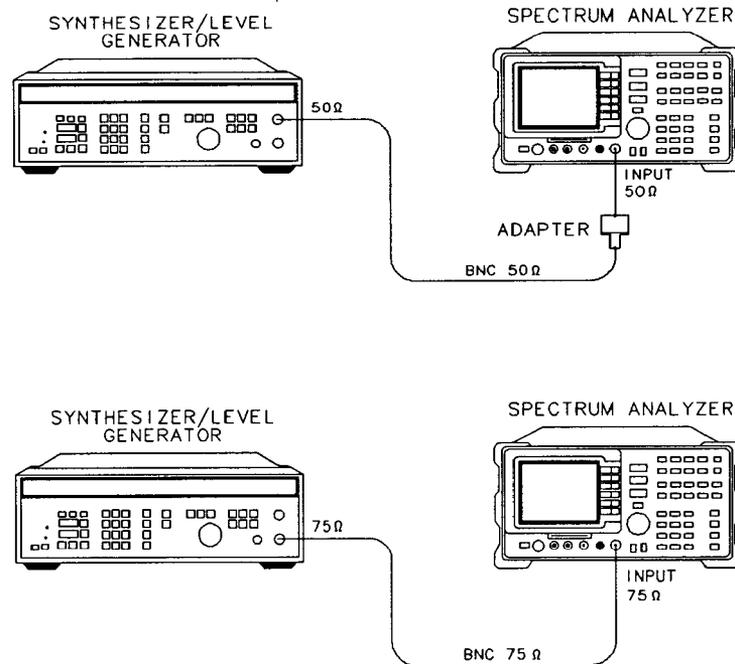

Figure 2-13. Cal Attenuator Error Correction Setup
3. Connect the 50 Ω output of the HP 3335A to the analyzer INPUT 50 Ω . See Figure 2-13.
(*Option 001*: Perform this procedure using the 75 Ω output of the HP 3335A and a 75 Ω BNC cable from HP 3335A to the analyzer INPUT 75 Ω .) See Figure 2-13.